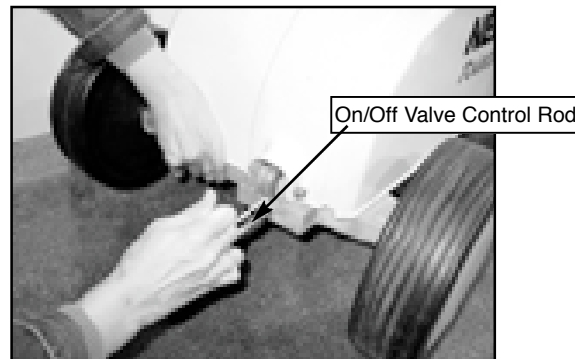

Figure 10. Winterizing the Machine.
1. After verifying to see that the supply hose is not under any pressure, remove supply hose from your RainTrain2®. Lift the front of the unit and cycle the on/off valve control rod in and out several times (see figure 10). This should allow the water to drain from your RainTrain2®.